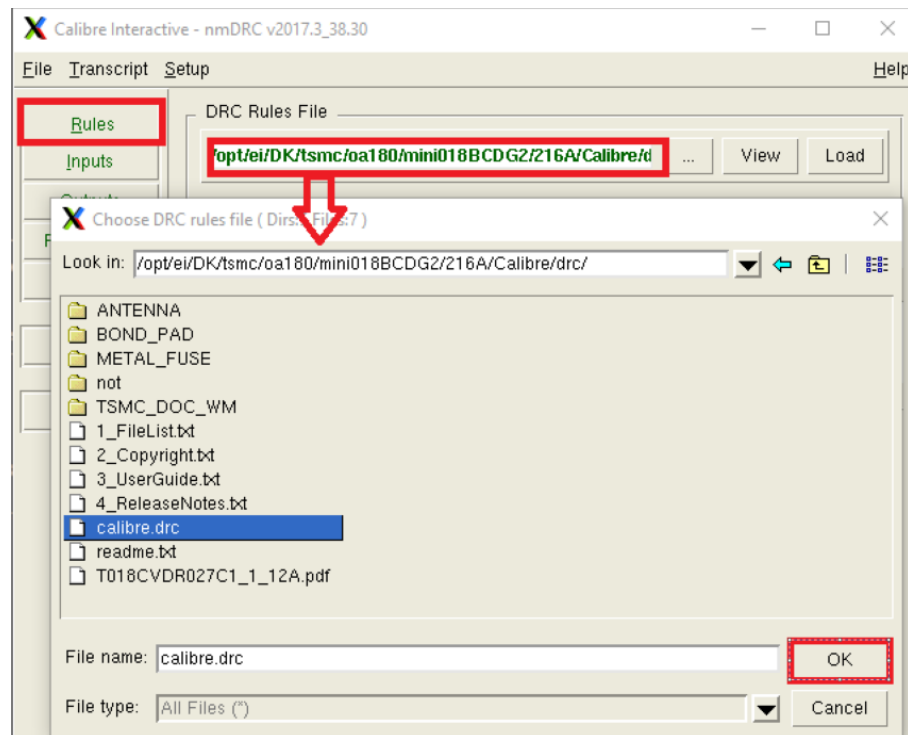
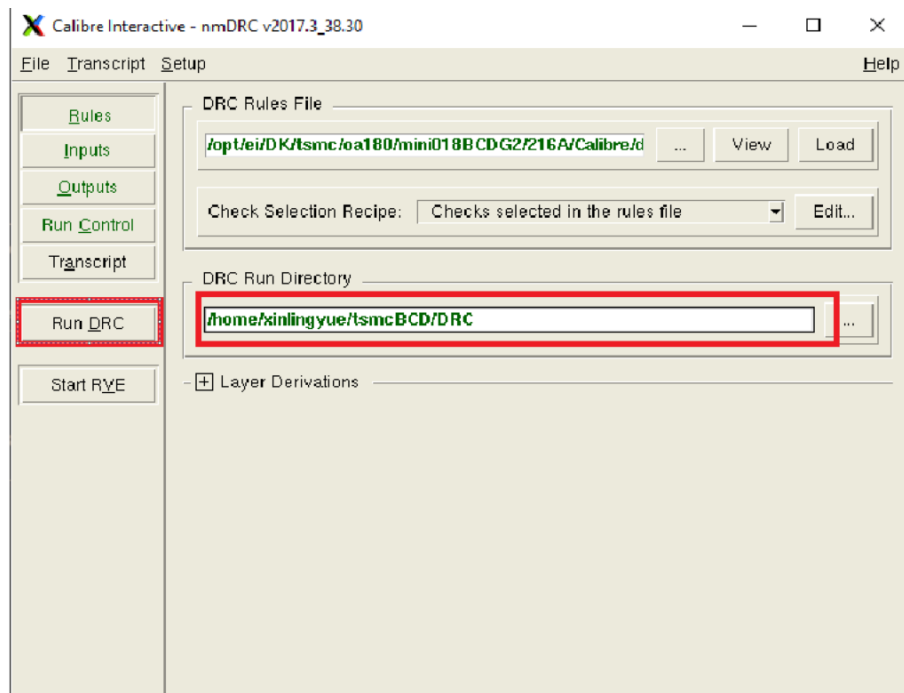

Figure 19: Setup DRC rule
Figure 20: Setup your DRC run directory
- Specify *DRC Rule File* and *DRC Run Directory* as shown in Fig. 19 and Fig. 20. You can define your own run directory to save your DRC results. The DRC Rule File can be found in the local Calibre/DRC directory. The rule file is in: